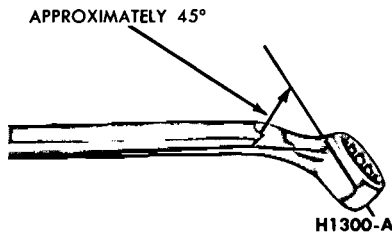

FIG. 4—Wrench for Bleeding Brake
1. Position a suitable $\frac{3}{8}$ -inch box wrench (Fig. 4) on the bleeder fitting
3. Position a $\frac{3}{8}$ -inch box wrench (Fig. 4) on the bleeder fitting on the right rear brake wheel cylinder. Attach a bleeder tube to the bleeder fitting. **The end of the tube should fit snugly around the bleeder fitting.**
③ CLEANING AND INSPECTION